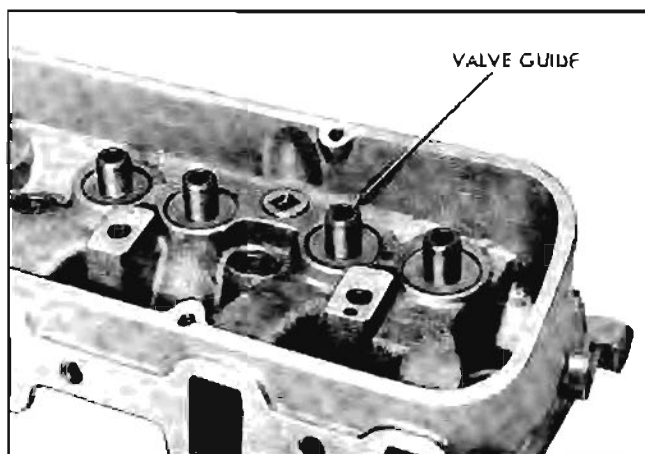

Fig. 6-92 Valve Guide
8. Check fit of valve in valve guide (Fig. 6-92). If clearance is excessive, replace guides as follows: